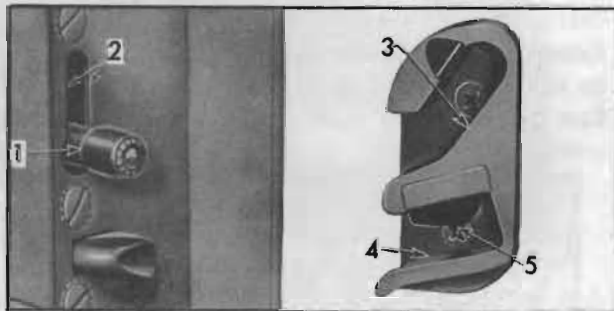

Figure 1-10—Door Lock and Striker
2. *Door Locks and Strikers.* Heavy bodied lubricants tend to gum up and hinder free movement of the lift bolt type locks. Referring to figure 1-10, use only SAE 10 engine oil at (1) roller and bolt (2) edges of bolt slot (3) (4) guide channels in striker (5) surface of bumper. Apply light film, wipe off surplus.